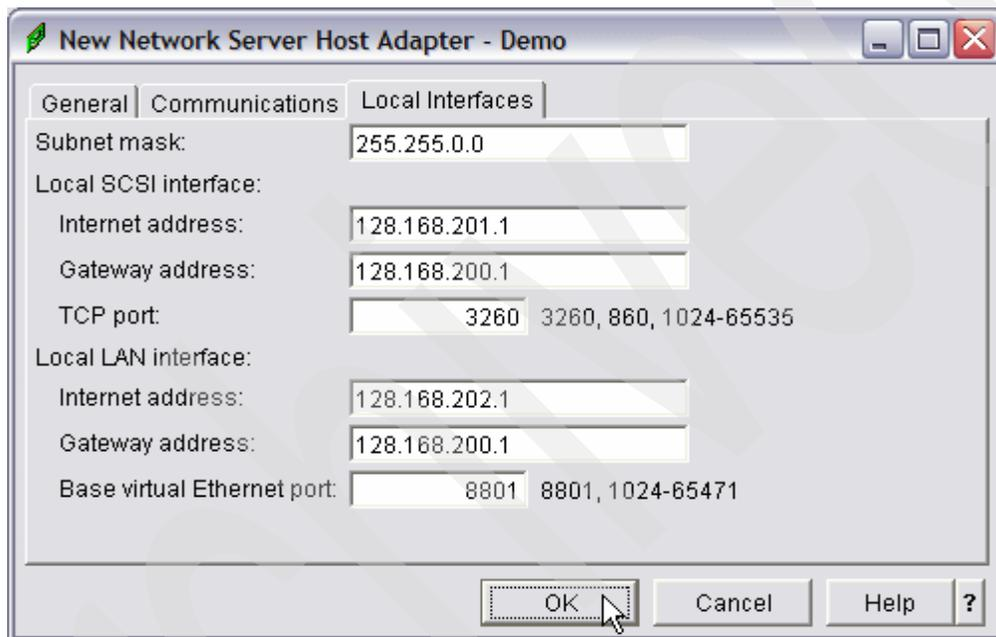

Figure 6-6 Local interface tab: New Network Server Host Adapter
- e. On the Local Interfaces tab, enter the following (Figure 6-6):